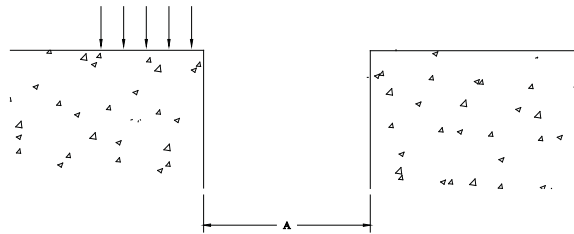

Figure 2
STEP 2. Select the mastic (by others) for water barrier installation. Spread the mastic on the substrate on the area of the floor surface onto which the water barrier will be installed and onto which the joint cover base member will be affixed, see Figure 2. Refer to the project details and the shop drawings to determine the placement and the width of the mastic.